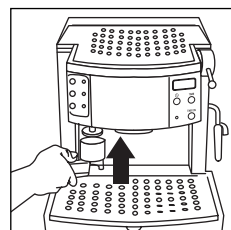

fig. 12
3. Distribute the ground coffee evenly and press it lightly with the coffee tamper (fig. 12).